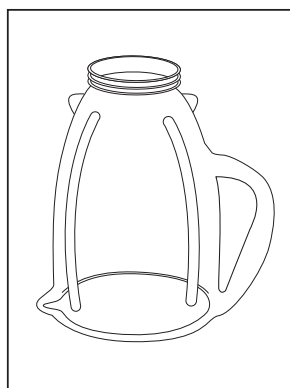

FIGURE 1
- Turn jar upside down so the small opening is at the top. (Figure 1)